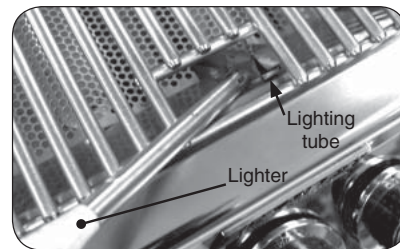

Fig. 15-2 - Manual lighting
Note: If the burner must be lighted manually, visually inspect the ignitor in the lighting tube (Fig. 15-2) while holding down the ignitor button. If it does not glow orange, check the electrical connections.
2. Insert either a burning long-barrel butane lighter or a burning long-stem match through the cooking grid opening to the top of the lighting tube. (Fig. 15-2). For backburners, hold the flame against the perforated material of the backburner.
4. If the burner does not light, **immediately depress the knob and turn the valve to OFF**. **WAIT FIVE (5) MINUTES** before repeating steps 2 through 4 of the **MANUAL LIGHTING** instructions.